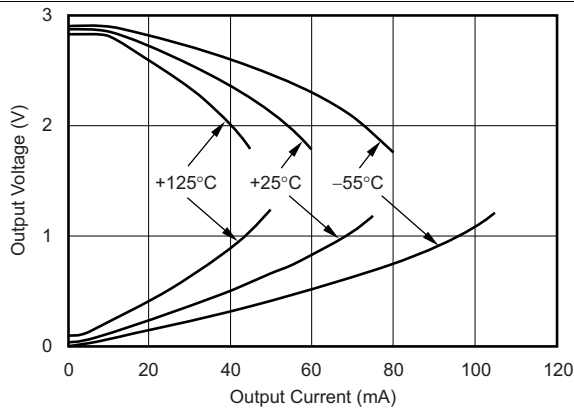
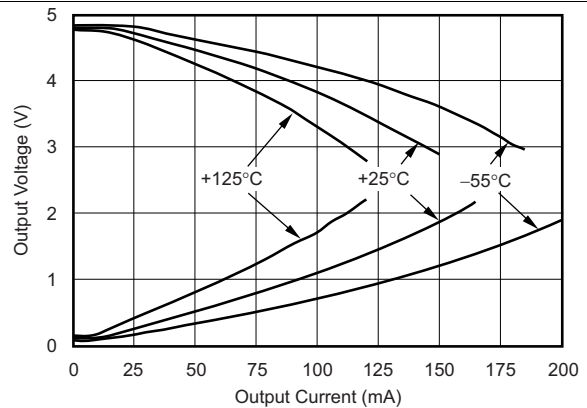
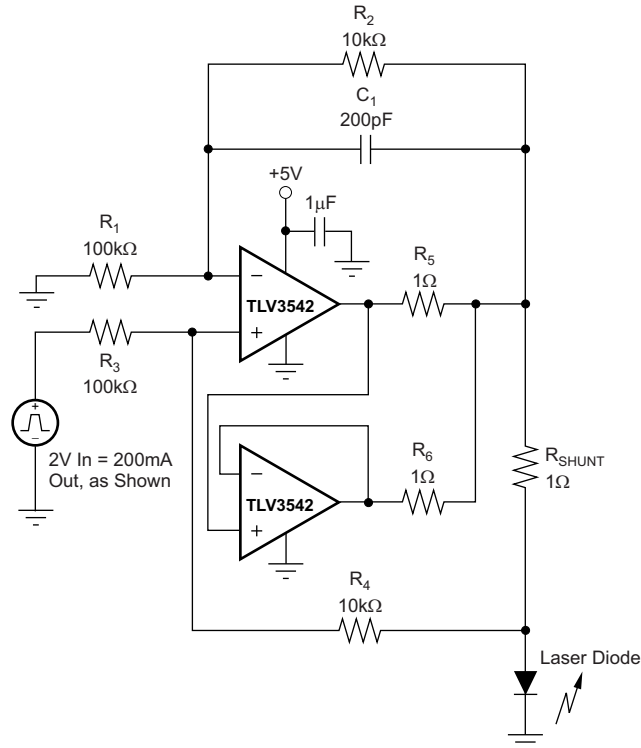

Figure 14. Output Voltage Swing vs Output Current for  $V_S = 3\text{ V}$
Figure 15. Output Voltage Swing vs Output Current for  $V_S = 5\text{ V}$
Figure 22. Parallel Operation
(1) See typical characteristic curves, *Output Voltage Swing vs Output Current* (Figure 14 and Figure 15).
(2) Specified by design.
(3) Operating in this temperature range will not damage the part. However, degraded performance may be observed.
A class AB output stage with common-source transistors is used to achieve rail-to-rail output. For high-impedance loads ( $> 200 \Omega$ ), the output voltage swing is typically 100 mV from the supply rails. With 10- $\Omega$  loads, a useful output swing can be achieved while maintaining high open-loop gain. See the typical characteristic curves, Output Voltage Swing vs Output Current (Figure 14 and Figure 15).
The TLV354x output stage can supply a continuous output current of  $\pm 100$  mA and yet provide approximately 2.7 V of output swing on a 5-V supply, as shown in Figure 21. For maximum reliability, it is not recommended to run a continuous DC current in excess of  $\pm 100$  mA. Refer to the typical characteristic curves, Output Voltage Swing vs Output Current (Figure 14 and Figure 15). For supplying continuous output currents greater than  $\pm 100$  mA, the TLV354x may be operated in parallel, as shown in Figure 22.